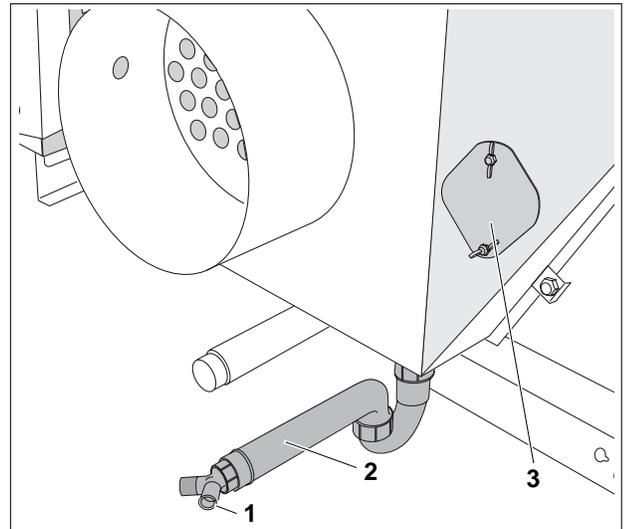

Fig. 27 Condensate
- Connect the drain hose to the connector (Fig. 27, **Item. 1**) of the condensate drain (Siphon) (Fig. 27, **Item. 2**) using a hose clip. When using $\varnothing 1\frac{1}{2}$ " pipe remove the tee piece on the siphon with a saw.
Prior to placing the boiler in operation, put 3 or 4 gallons of water in the clean-out opening or combustion chamber to fill the drain in the condensate drain line (Fig. 27, **Item. 3**).
Check to make sure the condensate drain does not get plugged (Fig. 27, Item. 2.).
- Check and possibly clean the flue gas collector and the condensate drain through the clean-out cover (Fig. 27, **Item. 3**).